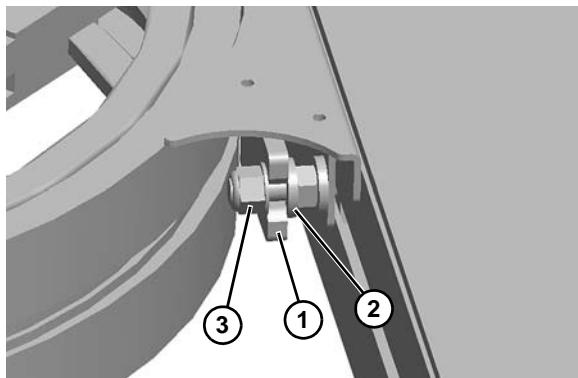

Figure 47
4. Connect conveyor sections together. Make sure that the tie bar (**Figure 47, item 1**) is positioned between washers (**Figure 47, item 2**) and hex nuts (**Figure 47, item 3**) on both sides.
5. Tighten hex nuts (**Figure 47, item 3**).